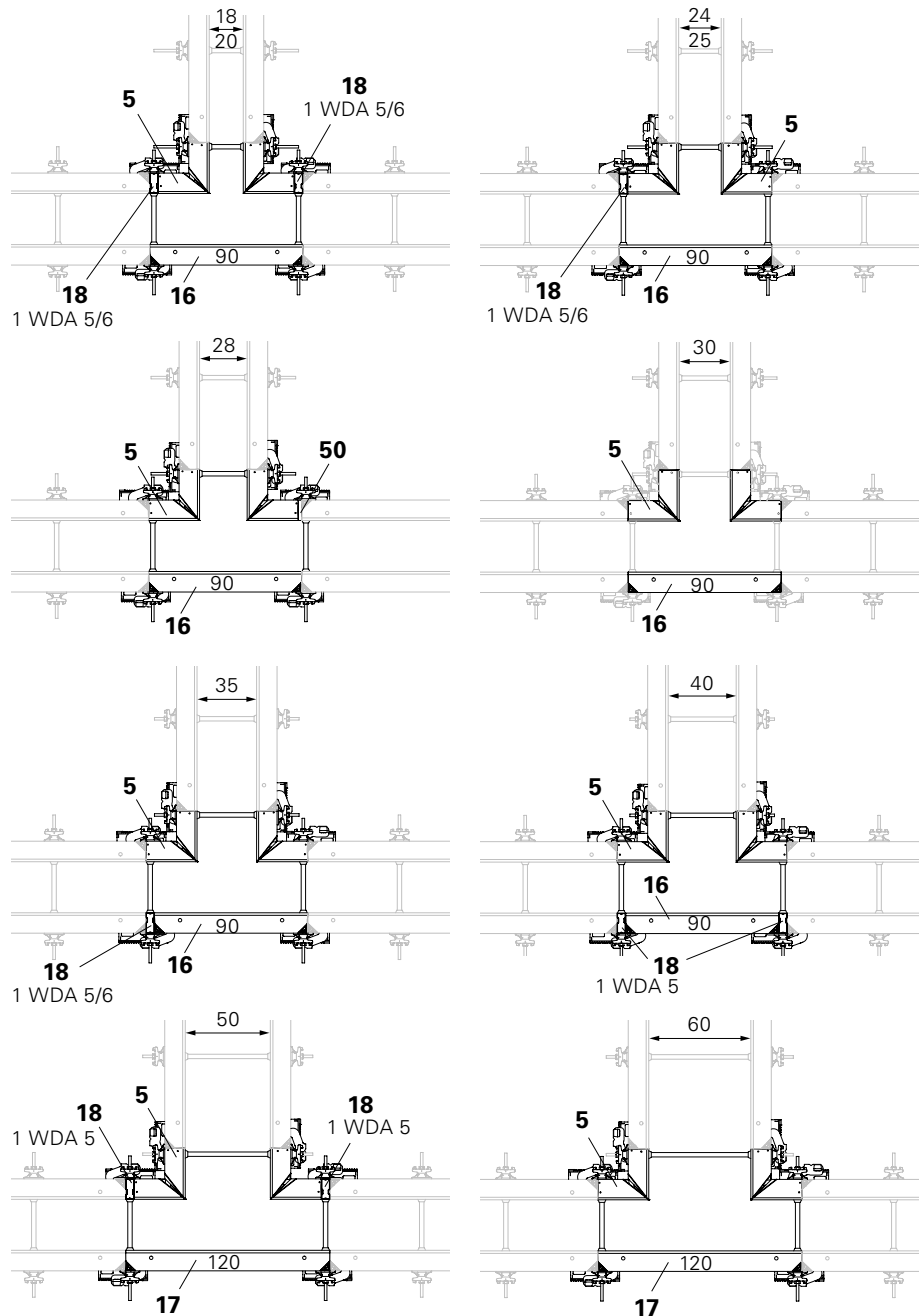

Fig. A9.01
Wall thicknesses from 18 cm to 60 cm can be continuously formed. (Fig. A9.01)
- T-junctions are formed with Inside Corner TE (5).
- The straight wall positioned opposite is formed with one Panel TR 90 (16) or TR 120 (17).
- (Fig. A9.01)